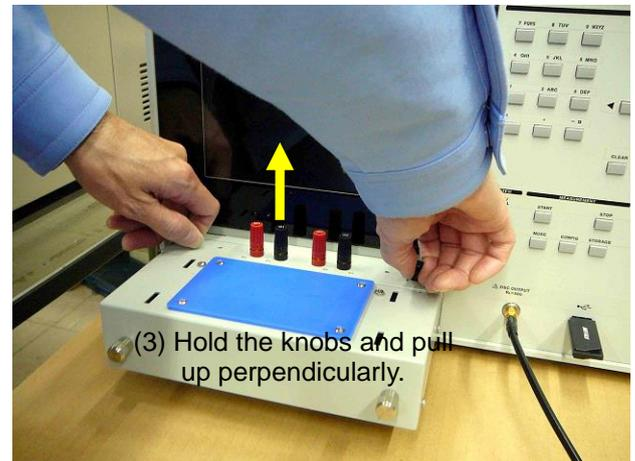

Fig. 4-4 Removing the measuring terminal block
(3) Then, hold the knobs with both hands and pull up perpendicularly. (See Fig. 4-4)
(4) Install the measuring block for Mini Single Sheet Tester Cable SY-957.